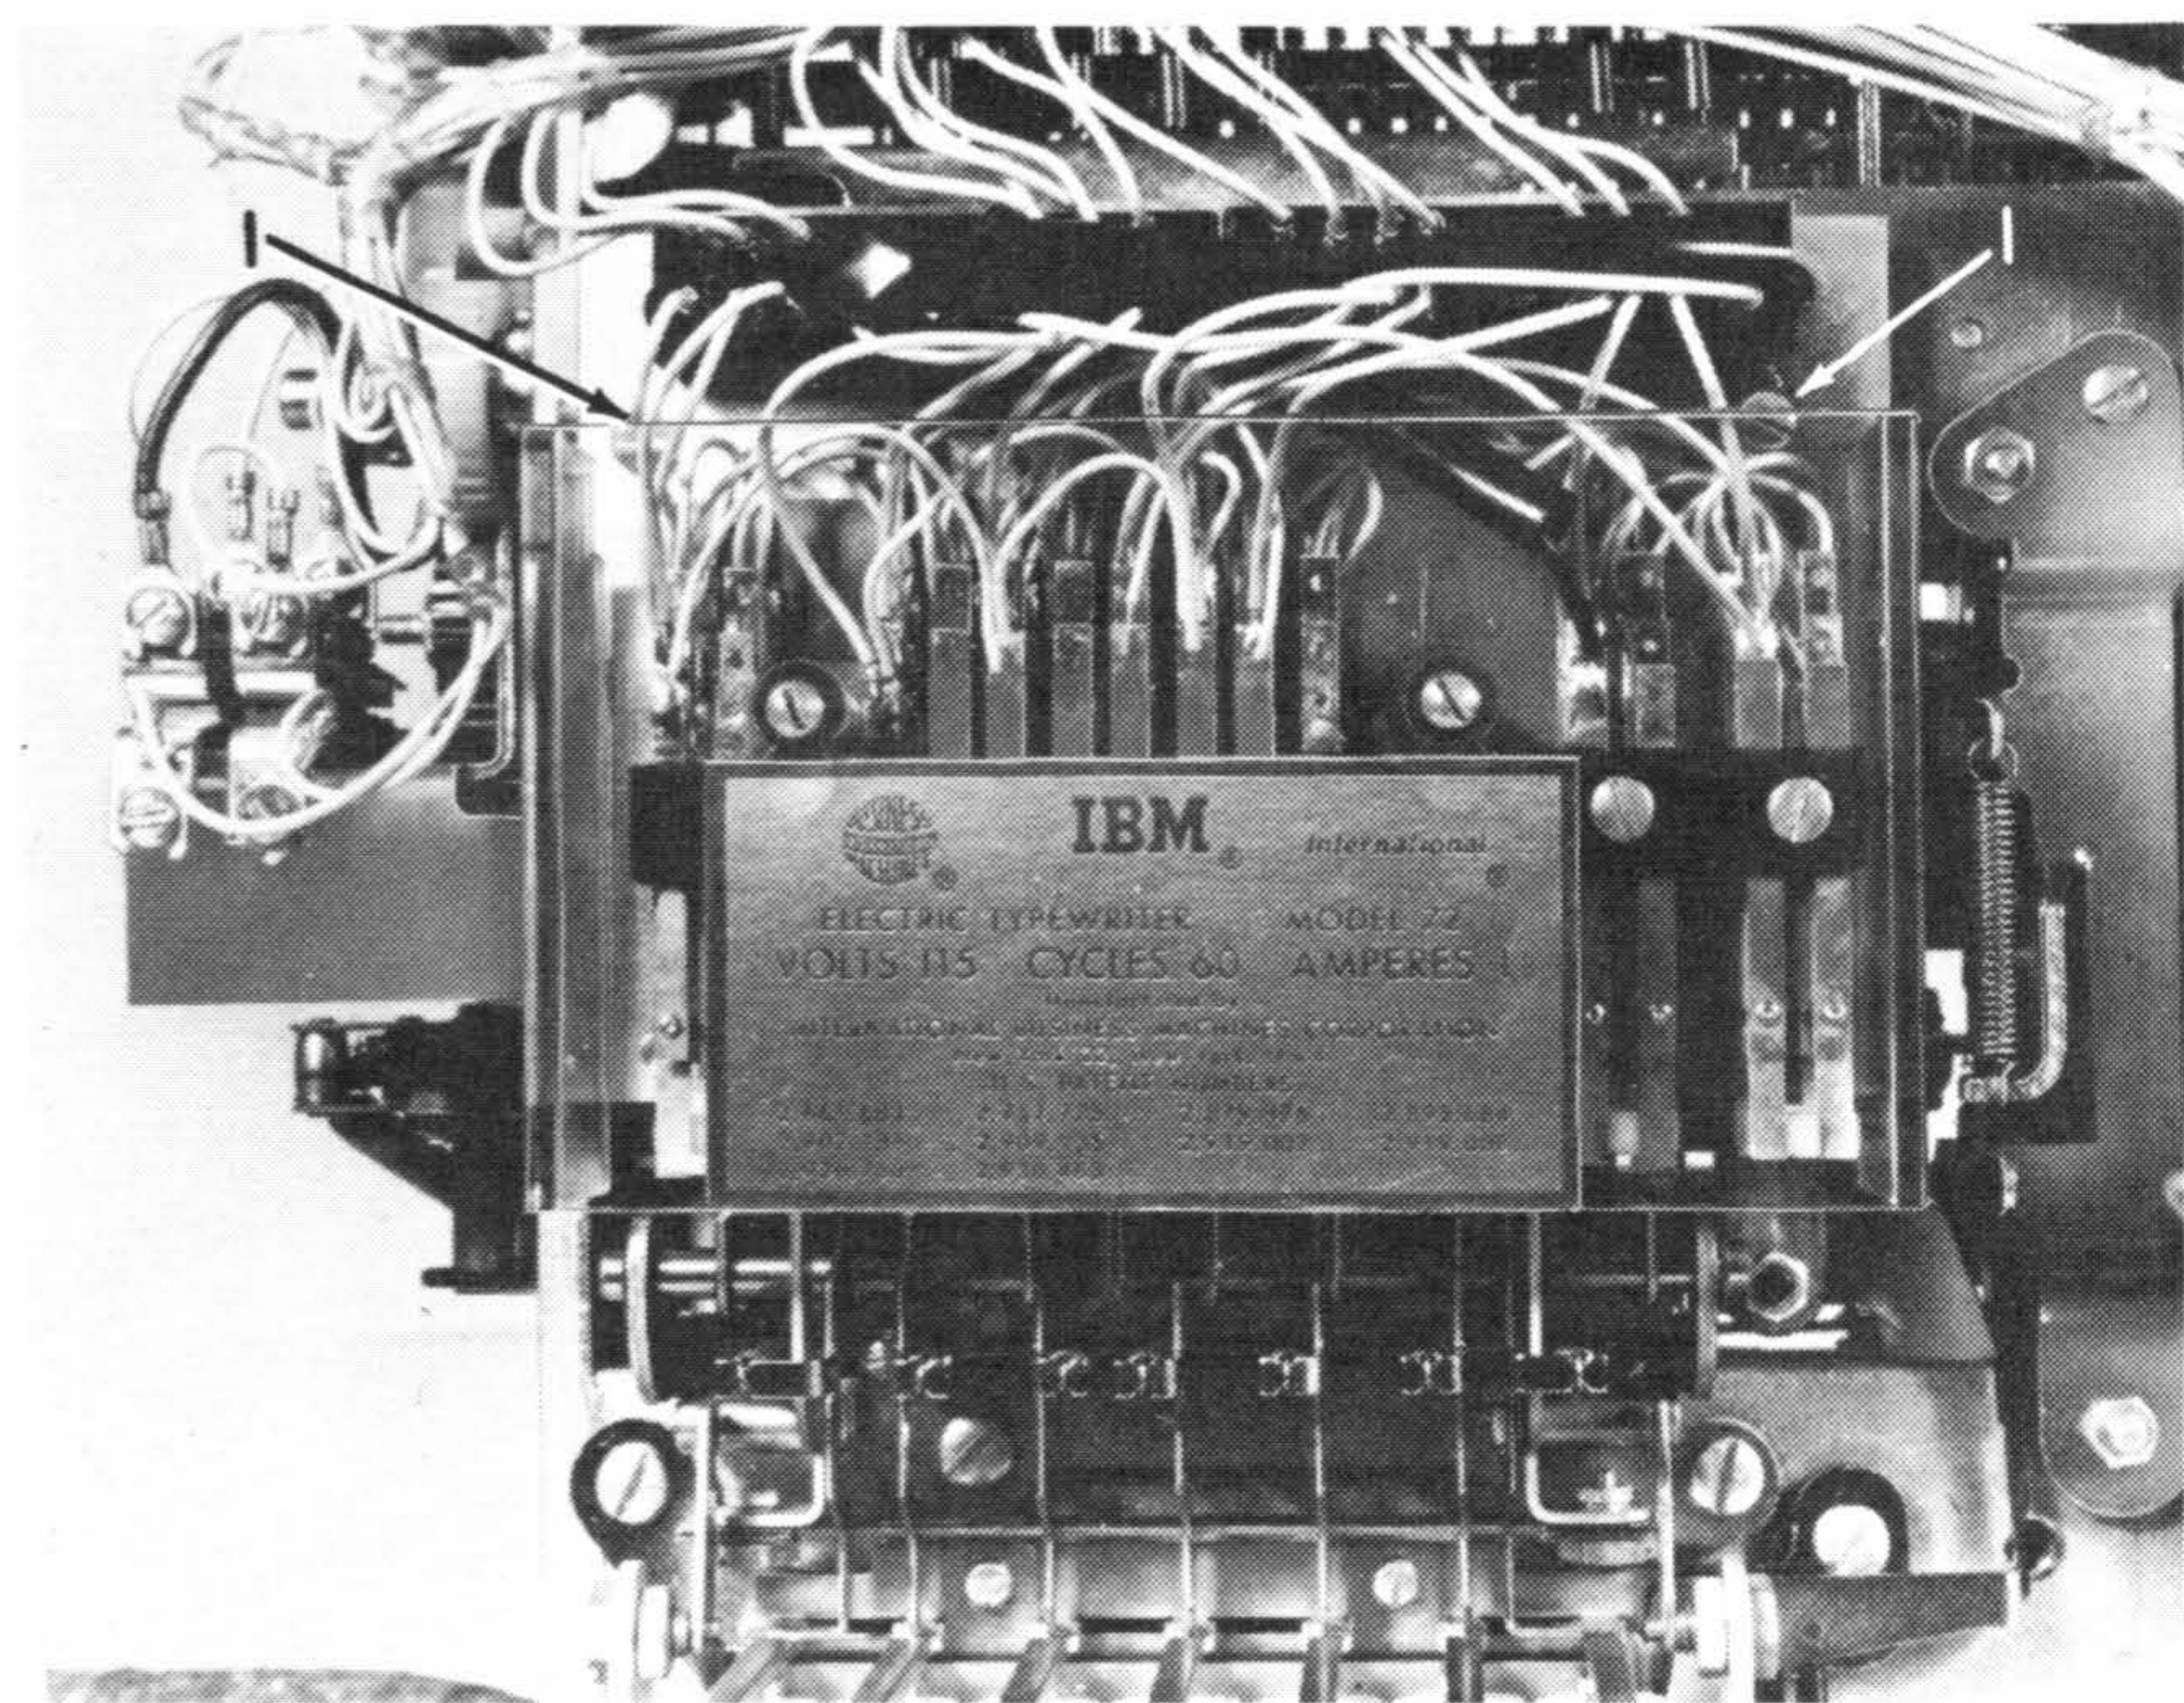

Figure 33. Selector Bail Removal
1. Remove the two screws (#1, Figure 33) that hold the contact plate to the frame. Remove the contact assembly, holding it to the front with a rubber band.